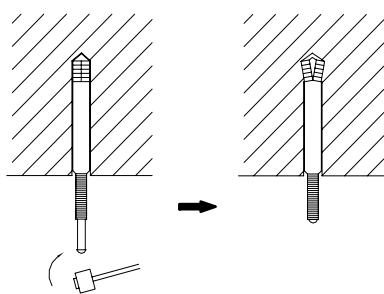

Fig.8.5
- (1) Insert a M10 expansion bolt into the hole. Drive a nail into the bolt. Refer to the profile dimensions drawing of the indoor unit for the distance between the holes. Refer to Fig.8.5 for the installation of the expansion bolt.